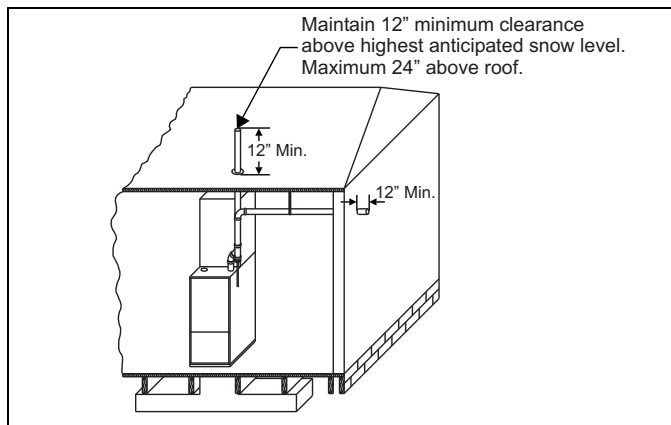

FIGURE 30: Termination Configuration - 1 Pipe
7. Direct vent systems must be installed so the vent and the combustion air pipes terminate in the same atmospheric zone. Refer to Figures 30 or 31.
The combustion air side of the single pipe configuration shown in Figure 30 is referred to in these instructions as ambient combustion air supply. Follow the instructions for ambient combustion air installations, paying particular attention to the section on air source from inside the building. The vent for a single pipe system must be installed as specified in the venting section of these instructions with the vent terminating as shown in Figure 30. Each furnace must have a separate vent pipe. Under NO circumstances can the two vent pipes be tied together.